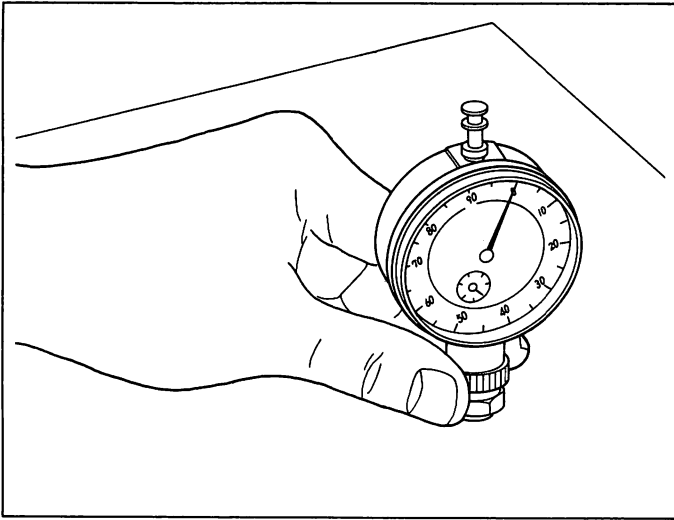

Fig. 61 Dial gauge "0" (zero) position
4. Fit a dial gauge on the measuring device (157829-0420) and set it to the "0" (zero) position. (Fig. 61)